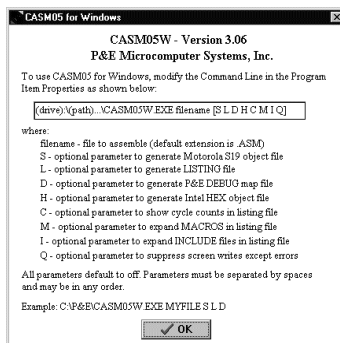

Figure 5-3. CASM05W for Windows Assembler Parameters
- Choose *Normal* to run the assembler in a standard CASM05W window (Figure 5-3).
To see a summary of the CASM05W Assembler parameters and example command-line, open the CASM05 for Windows window (Figure 5-3):